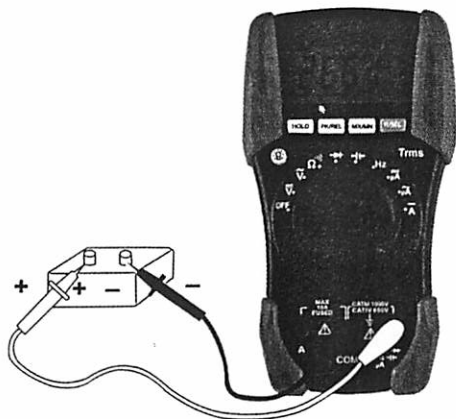

Fig. 2: Operation for DC Voltage measurement
3. Insert the test leads into the jacks, plug the red one into  $\rightarrow$  HzV $\Omega$  $\mu$ A jack and black plug into **COM** jack (see Fig. 2).